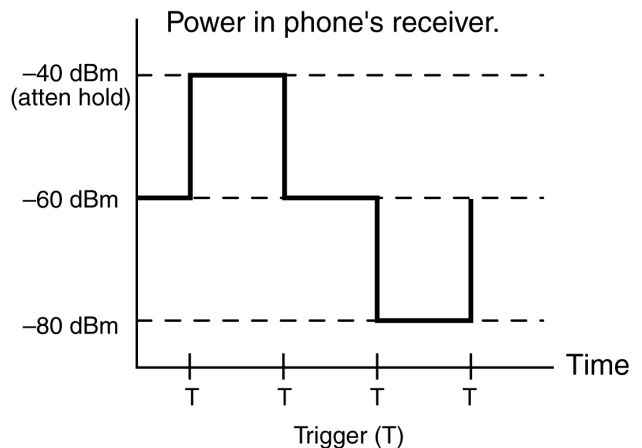

Figure 2. Base Station Power Transitions
1. The open loop power control time-response test is initiated at a power level of -60 dBm (base station). See Figure 2.